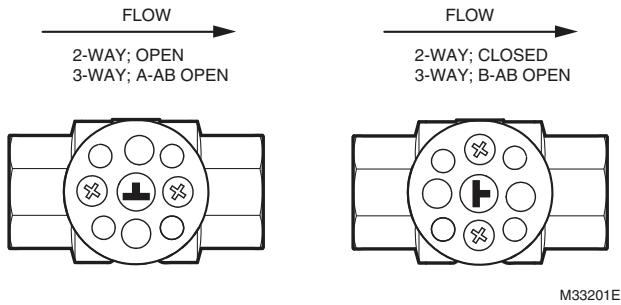

Fig. 33.
3. Remove the actuator. Ensure that the valve is closed. The T symbol on the stem should be oriented like it is in the right-side drawing in Fig. 33 below.
7. Insert the new stem. Be sure to align the key on the bottom of the stem with the slot in the ball, and the T symbol of the new stem is aligned exactly as the old one, like the right-side drawing in Fig. 33 below.